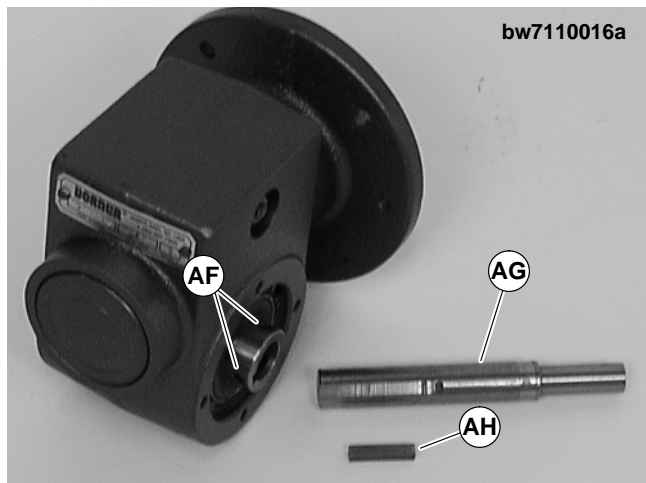

Figure 17
8. Loosen six (6) set screws (AF of Figure 17). Remove drive shaft (AG) and key (AH).
10. Replace the original shaft components into new gear reducer (see Figure 17). Tighten set screws (AF) to 26 in-lb (3 Nm).